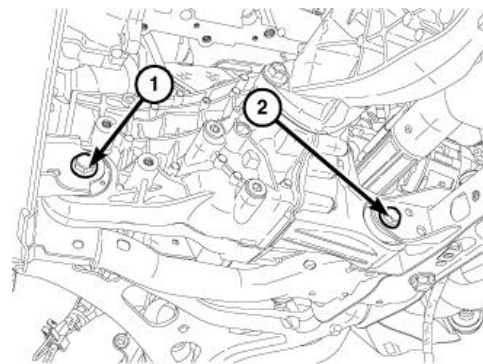

Figure 26 – Front Axle Fasteners
9. Install a **NEW** front axle cover bushing bolt (2) and a **NEW** front axle pinion nose bushing bolt (1) and tighten to 118N·m (87 ft. lbs.) (Figure 26).